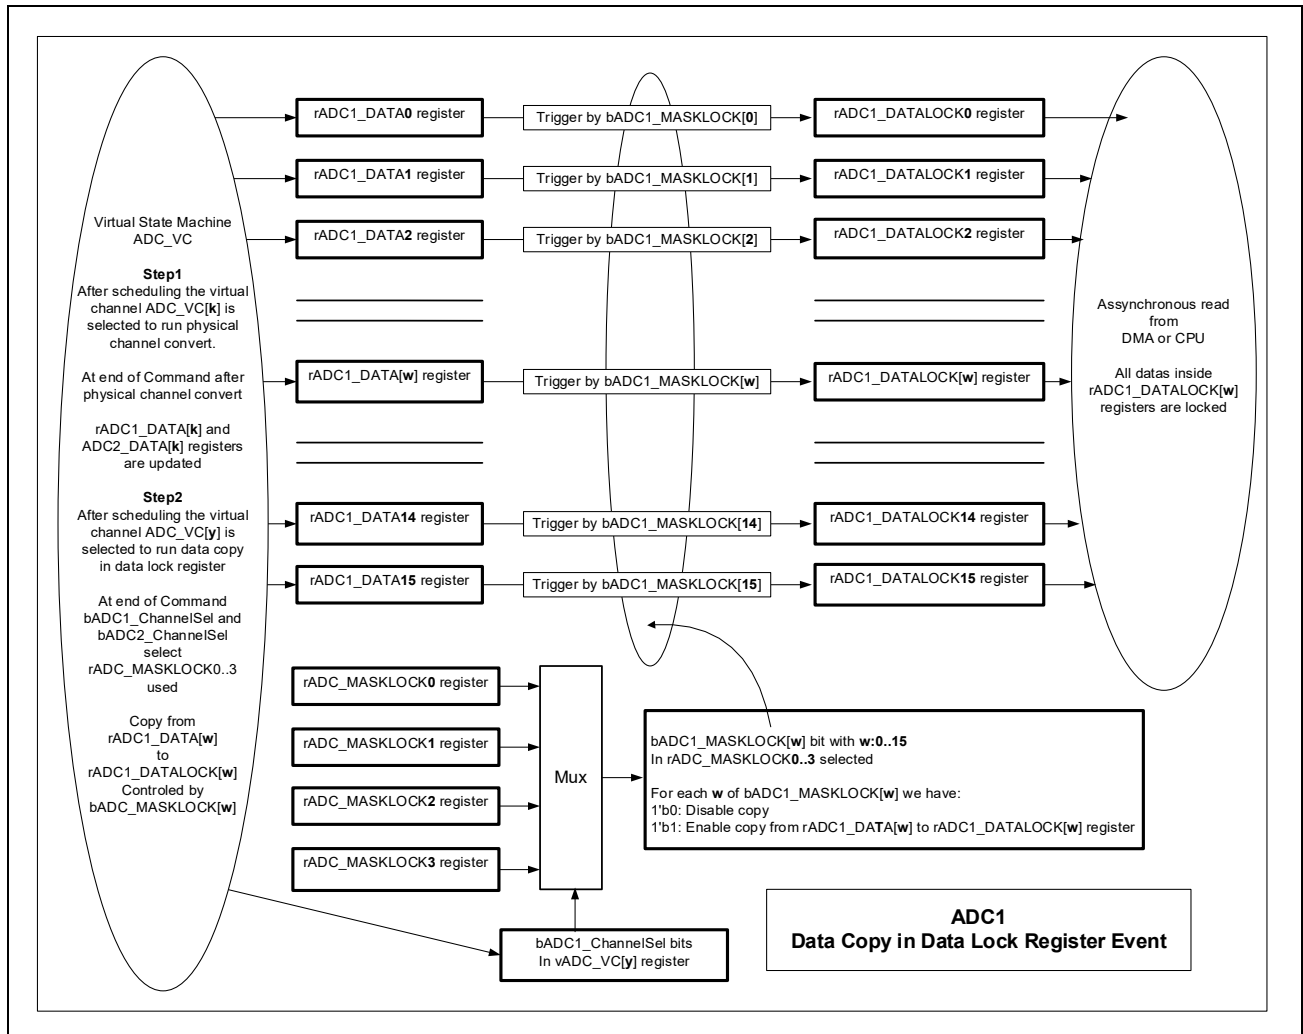

Figure 7.9 ADC Data Copy in Data Lock Register
- See **Figure 7.9, ADC Data Copy in Data Lock Register.**